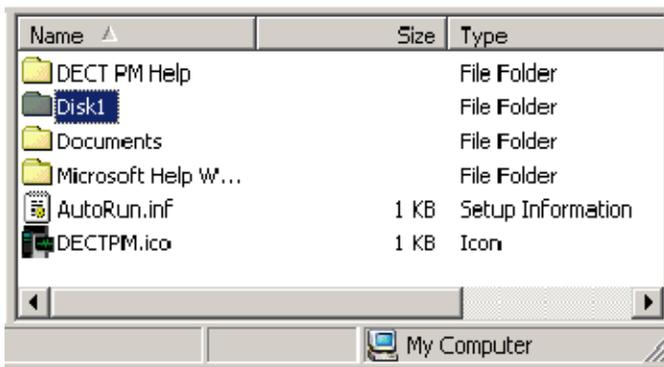

Figure 201: DECT Performance Manager application software
3. Open the folder labeled Disk 1. See Figure 201: DECT Performance Manager application software on page 292.